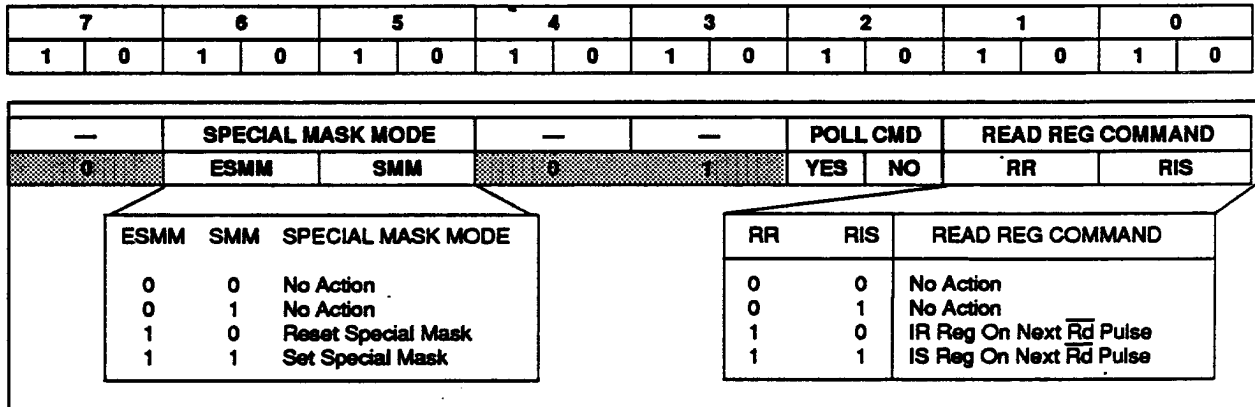

Figure 17. OCW3
Bits 5 and 6 program Special Mask Mode (SMM). Sets Bits 5 (SMM) and 6 (ESMM) to 1 to program SMM. Refer to Figure 17. If SMM is set to zero, it resets the controller to Normal Mask Mode. Polled Mode is enabled when Bit 2 is set to 1. Set Bit 1 (RR) and Bit 0 (RIS) to 0 to read the status of the ISR on SD0-SD7 at Address 020H or 0A0H. Set Bit 1 to 1 and Bit 0 to 0 to read the status of the IRR on SD0-SD7 at Address 020H or 0A0H.